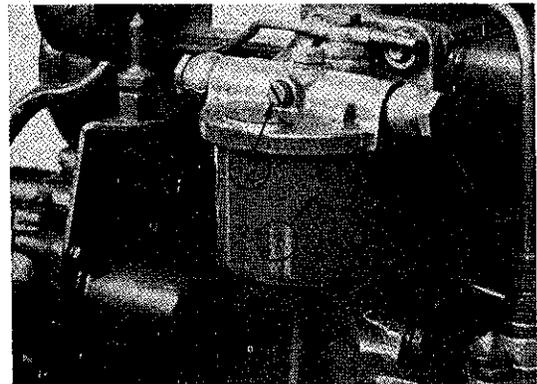

Fig. 7
- a. Loosen slotted screw on fuel filter (fig. 7).